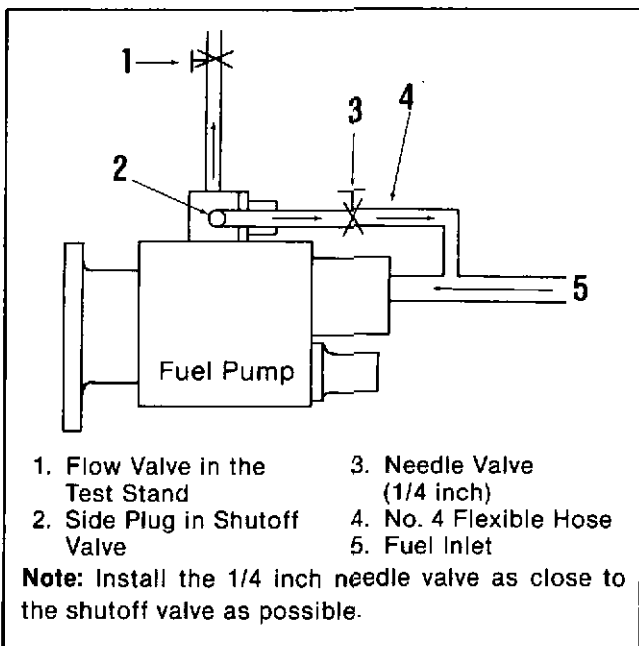

Fig. 10-23, (F5398). No air setting and checking plumbing.
1. Install a short No. 4 flexible line into the side of the shutoff valve and into the needle valve. This line must not be over 6 inches, [152 mm] long, Fig. 10-23.